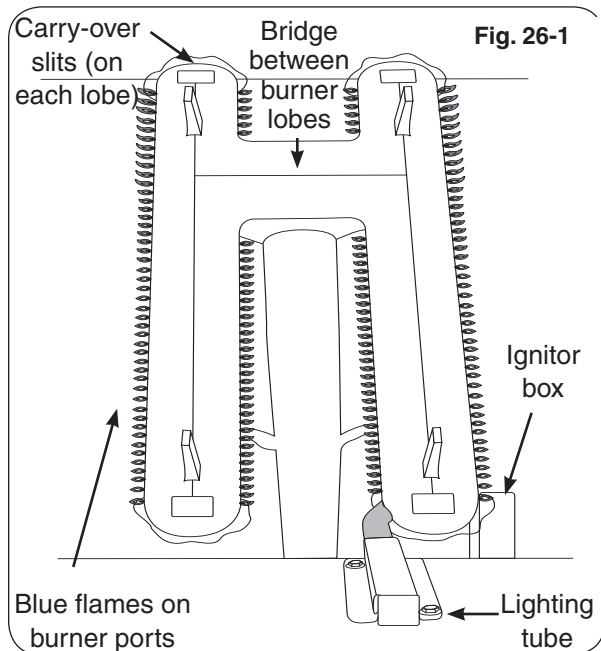

Fig. 26-1
Flames from a properly adjusted main burner with no wind or breeze present will appear fairly steady, consistent, and mostly blue. If the tip of a flame were to turn orange, it should only do so briefly and then become blue again. The flames will appear to burn while touching the burner ports (see Figure 26-1).
5. Repeat steps 1-4 until the flames appear to touch the burner ports, burning fairly steadily and mostly blue (see Fig. 26-1).